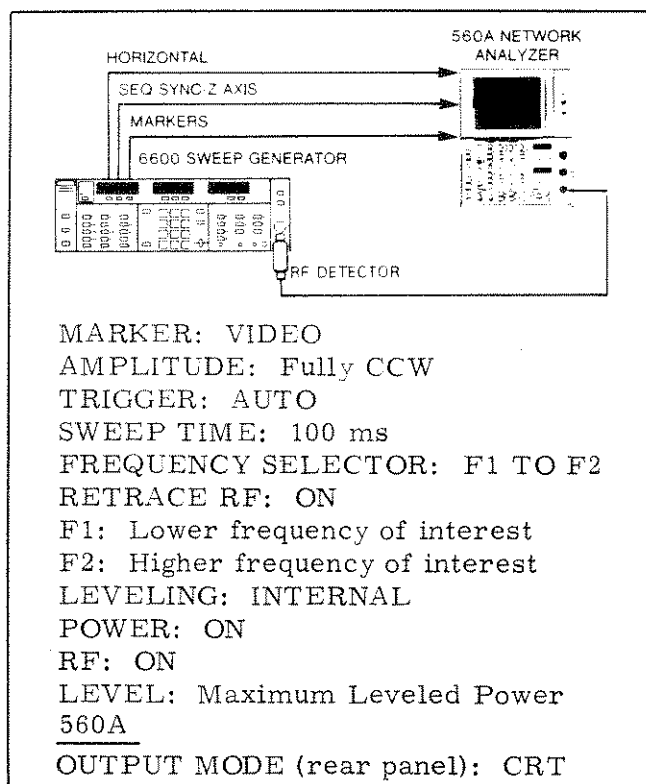

Figure 5-4. Digital PCB Calibration Equipment Setup Using WILTRON 6600(A) Series Programmable Sweep Generator
shown in Figure 5-4.
1. Connect 560A to sweep generator and position sweep generator controls as shown in Figure 5-4.